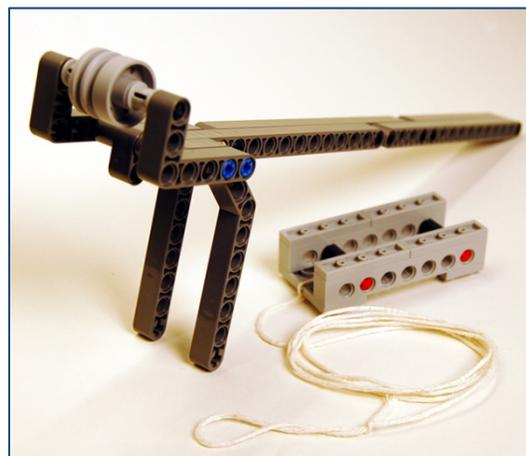

Figure 1. Inclined Plane Model with Trolley
- ( ) Carefully examine the model of the Inclined Plane and Trolley shown in Figure 1. Construct a model similar to the one shown in the photograph. The trolley must slide easily up and down the model of the Inclined Plane.